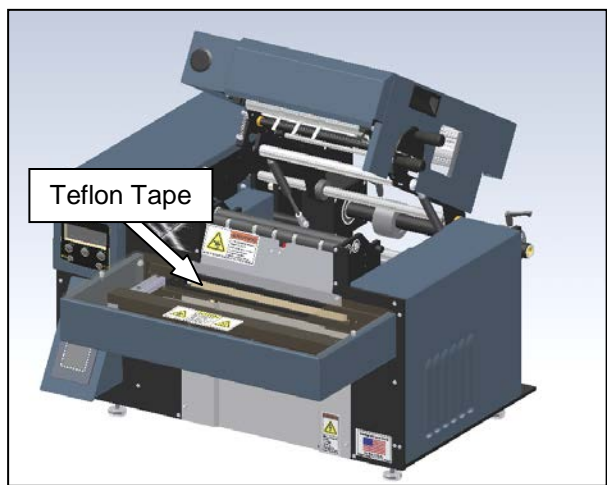

Figure 3-335. Removing the Teflon Tape
2. Completely remove the Teflon tape from the seal wire area (Figure 3-335).